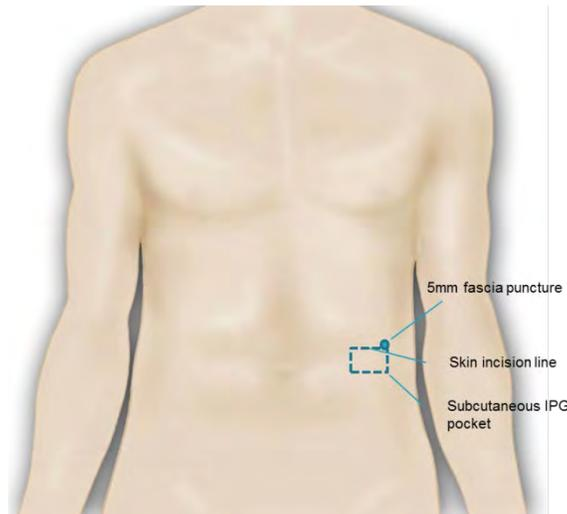

Figure 13 Skin Incision
2. At the lateral end of the skin incision, push the upper lip of the incision with the tip of the port 1-2 cm towards the rib cage and puncture the fascia (Figure 13). Do this above the lateral upper angle of the pocket.